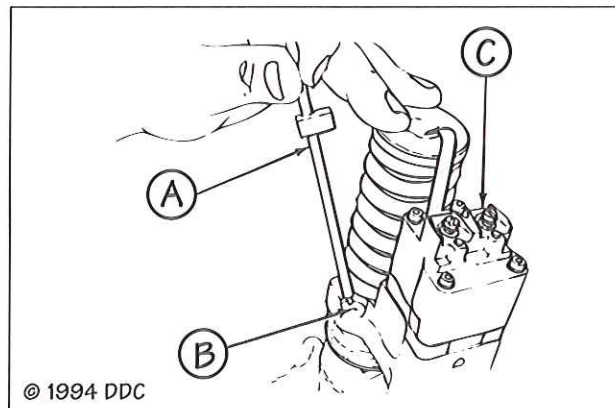

FIG. 60
11. Adjust the fuel injector height for the cylinder, indicated on the Timing Chart in parentheses ( ), by placing the small end of the Height Gage (A, Fig 60), J35637-A, in the pilot hole (B) provided in the fuel injector body (C), with the flat of the gage toward the fuel injector plunger as shown.